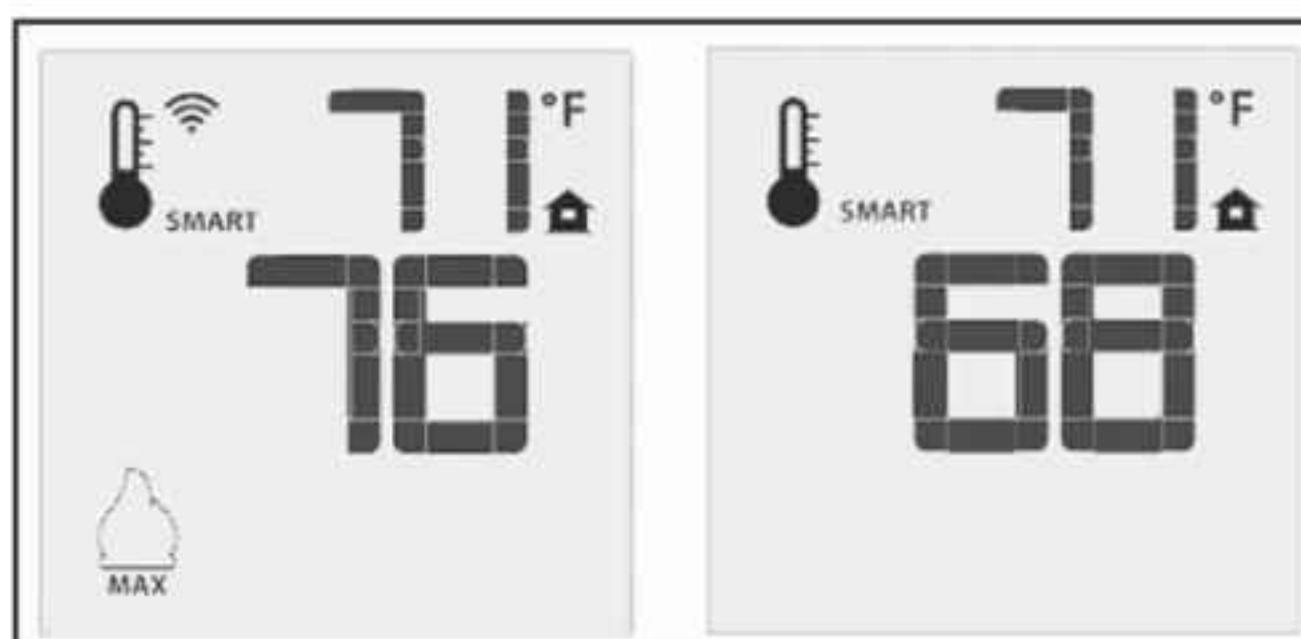

Figure 110: Remote Control's Smart Flame Function.
**Transmitter:** The life span of the remote control batteries depends on various factors: quality of the batteries used, the number of ignitions of the appliance, the number of changes to the room thermostat set point, etc. When the Transmitter batteries are low, a Battery Icon will appear on the LCD display of the Transmitter (see Figure 110) before all battery power is lost. When the batteries are replaced this Icon will disappear.